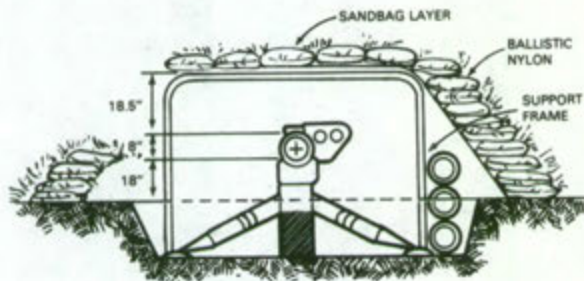

Figure 2.
(1) Place sod from the position on the parapet in such a manner that it looks natural and will have a good chance of growing.
(2) If additional vegetation must be used to break up the outline of the parapet, obtain some (similar to that found near your position) from far to the rear of your position with root structure intact, if possible. Do not use so much vegetation that the position has more than the surrounding area. Camouflage the holes or cuts from which vegetation was removed.
(3) If the position is covered (figure 2), camouflage it in the same manner as the parapet. If it's not covered, you must camouflage the position using camouflage nets or available brush, branches, etc., so that it's not visible from above.
(4) Replace dying foliage constantly. Attempt to get sod, small trees, plants, etc., used as camouflage to grow, so that position will improve as time passes (figure 2). Remember, the position can always be improved.